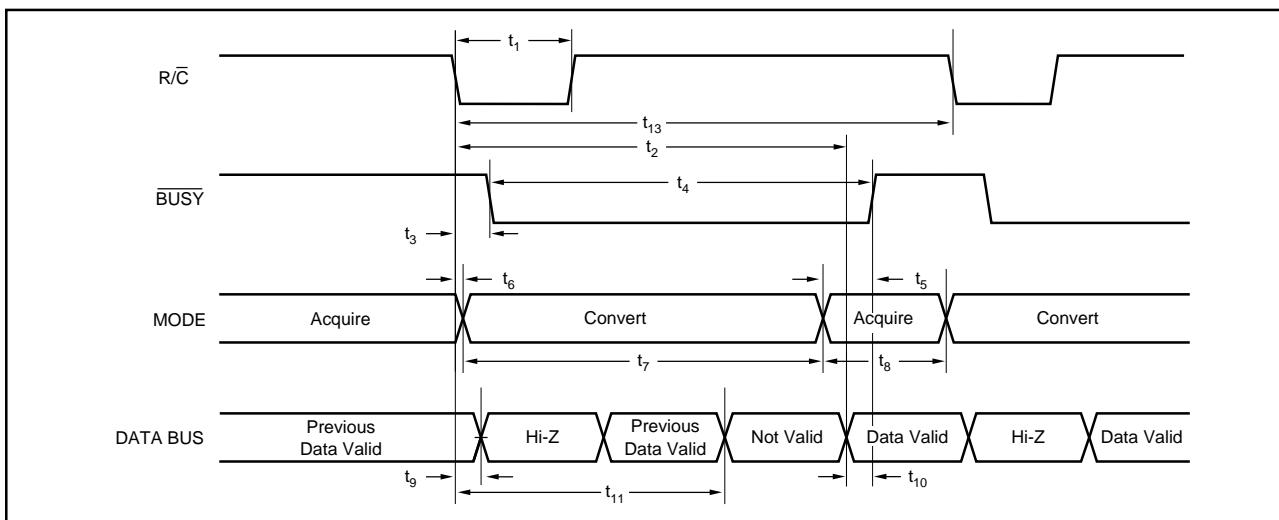

FIGURE 3. Conversion Timing with Outputs Enabled after Conversion ( $\overline{CS}$  Tied LOW.)
The ADS7821 will begin tracking the input signal at the end of the conversion. Allowing 10 $\mu$ s between convert commands assures accurate acquisition of a new signal. Refer to Table II for a summary of  $\overline{CS}$ ,  $\overline{R/C}$ , and  $\overline{BUSY}$  states and Figures 3 through 5 for timing diagrams.
NOTE: (1) See Figures 3 and 4 for constraints on data valid from conversion "n-1".
After conversion 'n' is completed and the output registers have been updated,  $\overline{BUSY}$  (pin 26) will go HIGH. Valid data from conversion 'n' will be available on D15-D0 (pin 6-13 and 15-22).  $\overline{BUSY}$  going HIGH can be used to latch the data. Refer to Table IV and Figures 3 through 5 for timing specifications.
After conversion 'n' has been initiated, valid data from conversion 'n-1' can be read and will be valid up to 5 $\mu$ s after the start of conversion 'n'. Do not attempt to read data from 5 $\mu$ s after the start of conversion 'n' until  $\overline{BUSY}$  (pin 26) goes HIGH; this may result in reading invalid data. Refer to Table IV and Figures 3 through 5 for timing specifications.
The number of control lines can be reduced by tying  $\overline{CS}$  LOW while using  $\overline{R/C}$  to initiate conversions and activate the output mode of the converter. See Figure 3.